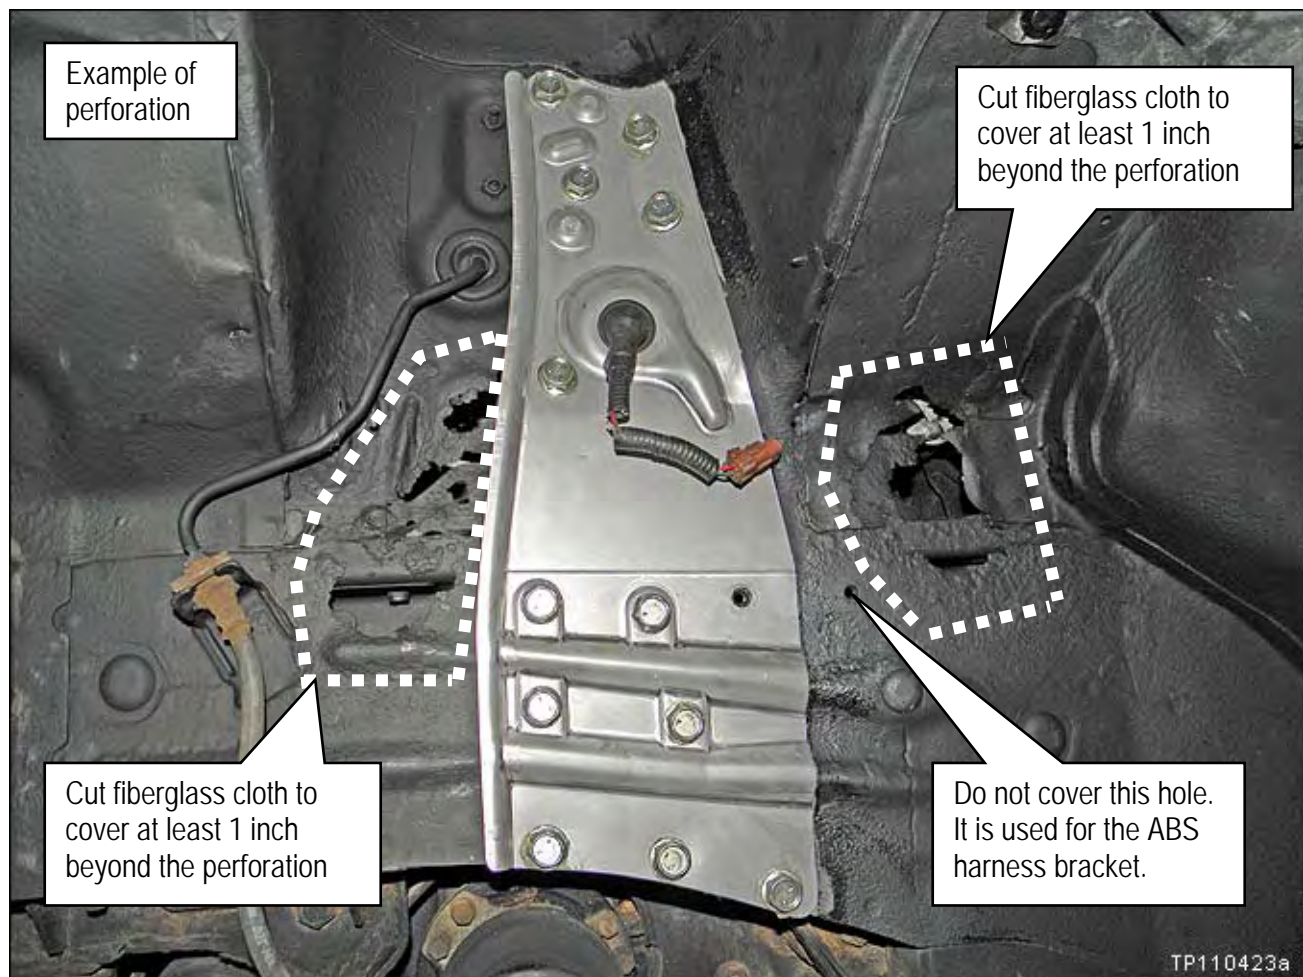

Figure RB29
**NOTE:** The Photo in Figure RB29 is an example of possible perforation. The vehicle you are working on may have perforation in additional areas, areas different than these, or may not have any perforation.
32. Cut fiberglass cloth to cover perforated areas (see example in Figure RB29).